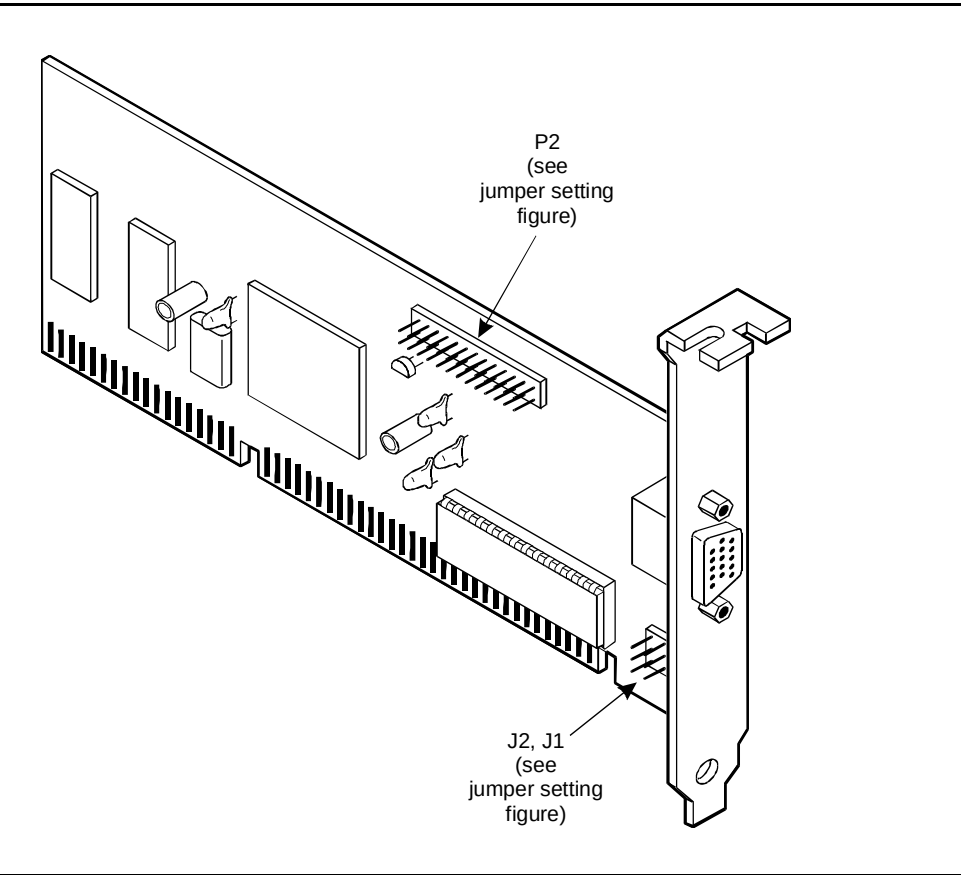

Figure 5-86. STB Horizon Video Controller Circuit Card
- STB Horizon (Figure 5-86)
Figure 5-86 shows the STB Horizon video controller circuit card.